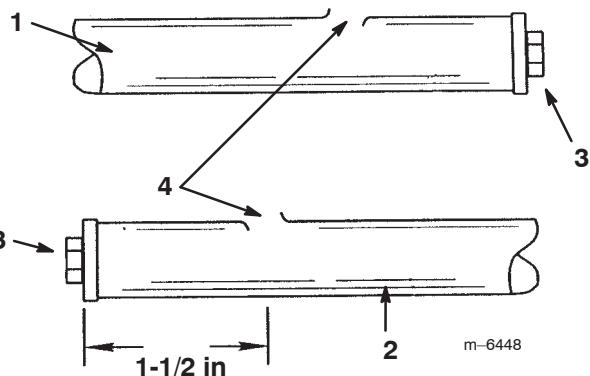

Figure 31
1. Locate, mark, and drill (through the top surface only) a hole ($5/8$ inch dia) $1\frac{1}{2}$ inch from the plugged end of the right boom pipe (Fig. 31).
3. Use a round file or deburring tool to deburr the holes you drilled in the boom pipes (Fig. 31).
4. Insert a drift punch into the $5/8$ inch holes in the boom pipes and distort the openings as shown in Figure 31.